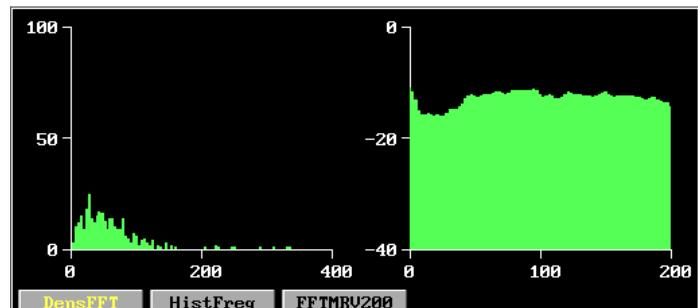
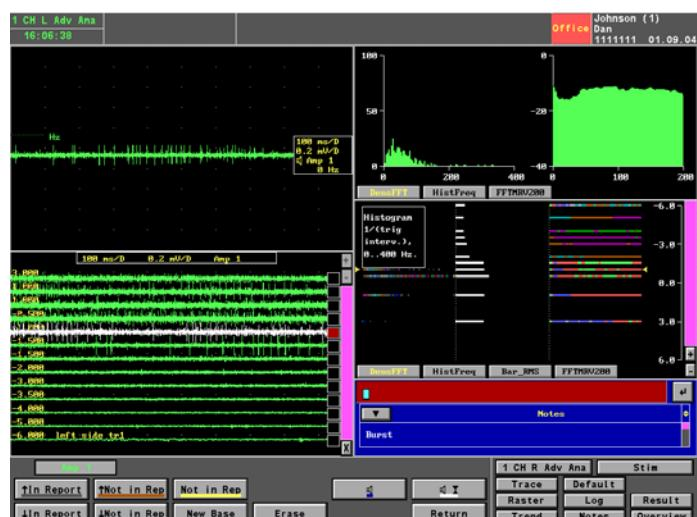

Figure 32 The Result Window from Fig. 38 above.
Figure 34 Overview Window: 2 yellow arrows
If no signal is selected, it is the last saved signal displayed. One example is the HistFreq display, the left chart in Figure 32. This shows the histogram of the frequency of the detected peaks in the signal. The frequency is along the x-axis, and the number of occurrences is along the y-axis. For further explanation and setup, please see the description in the subsection *Results* in the section the Modality Setup Menu on page 60.
**TIP** Holding down the mouse button while clicking anywhere in the Result, or the Overview Windows will produce a pop-up menu. It displays additional information on the abbreviated form of the name on the various buttons in the window. See Figure 34 below.
An example of a single value is **Bar\_RMS** of Figure 34. In this case the RMS value of each recorded curve is shown as the length of the bar.
An example of a color-coded result is **HistFreq** of Figure 34. This shows the result curve from Figure 32 with the same name, but converted to lighter colors for high values, and darker for lower values. For a more detailed description of the analysis results available and the setup please see see the description in the subsection **Results** in the section on The Modality Setup Menu on page 60.
- Selecting a trace in the Trace Window by clicking on brings about two yellow arrows pointing at the relevant color bar in the Overview Window see Figure 34 below: